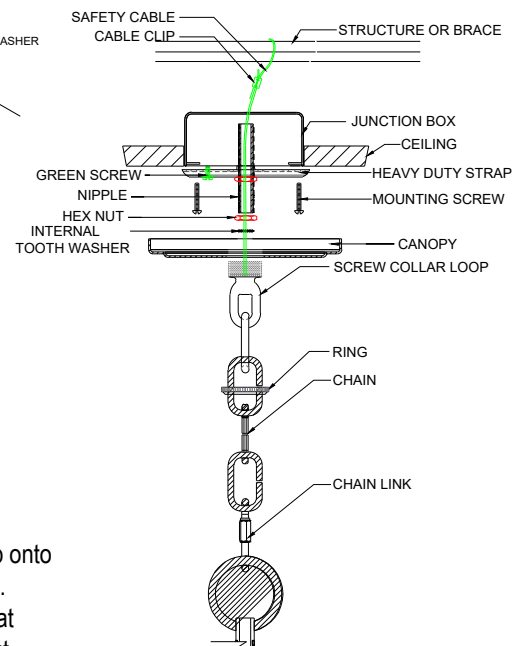

FIGURE-02
1. Attach the heavy duty strap unto the junction box (the green screw should face the floor). Then attach the SAFETY CABLE to the building structure or brace. (SEE FIGURE-02)